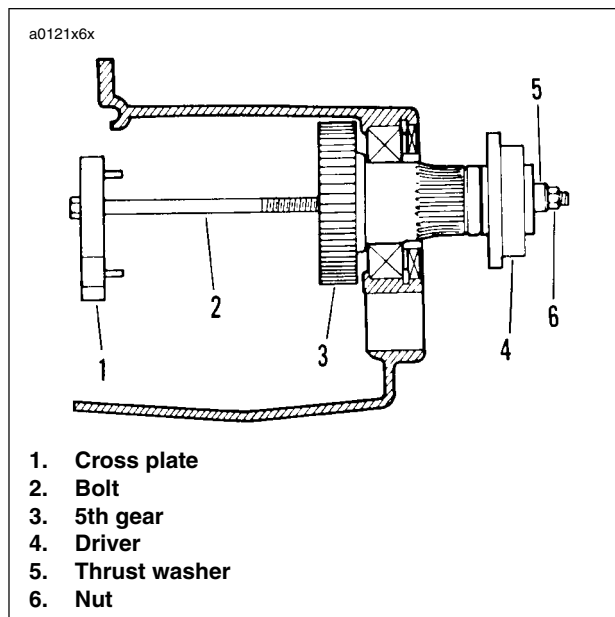

Figure 6-70. Removing Main Drive Gear
5. See Figure 6-70. Assemble MAIN DRIVE GEAR REMOVER AND INSTALLER (Part No. HD-35316-A) with CROSS PLATE (Part No. B-45847).
6. Insert bolt (2) through cross plate (1) and 5th gear (3).